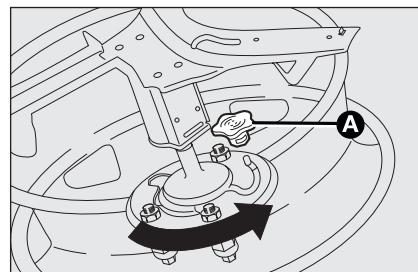

fig. 13
- ☐ Fasten the toothed support on the drilled wheel by means of the 2 screws (insert the support from outside the wheel). Rehook the metallic retaining cable in the specific seat and reinsert the protection cap **A-fig. 13**.